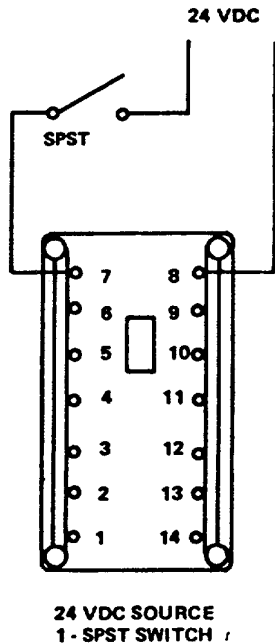

Figure 5-6. Relay K23, Test Setup
(1) Test relay K23 by connecting 24V DC and a single-pole single-throw switch as shown in figure 5-6.